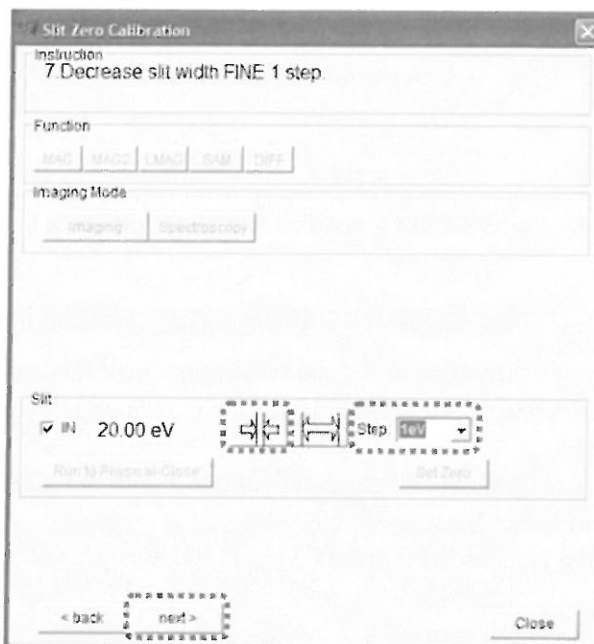

Fig. 5.62 Slit Zero Calibration - 7. Decrease slit width FINE 1 step
7. Follow "Instruction – 7. Decrease slit width FINE 1 step", and when the gap is visible, close the slit by 1 step (Fig. 5.62). After closing the slit by 1 step, click the **next** button to proceed.